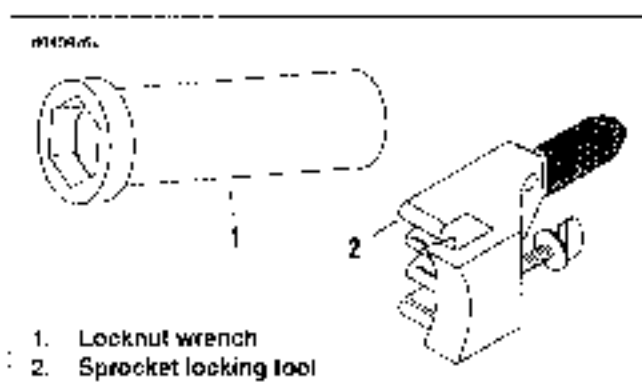

Figure 6-26. Transmission Sprocket Tools
- b. See Figure 6-26. Secure sprocket using TRANSMISSION SPROCKET TOOL (Part No. HD-41184).
3. See Figure 6-26. Lock transmission sprocket with the TRANSMISSION SPROCKET LOCKING TOOL (2) (Part No. HD-41184). Attach tool to sprocket with tool handle below pivot shaft. Snug thumbscrew to lock tool on sprocket.
4. Screw pilot of MAINSHAFT LOCKNUT WRENCH (1) (Part No. HD-94660-37B) onto threaded end of main shaft.